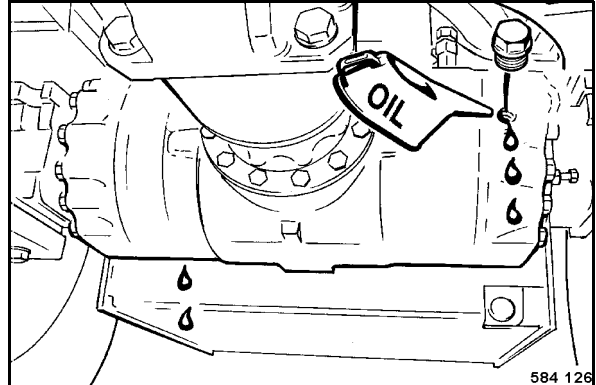

Fig. 174
- Fill in oil through the oil level inspection bores (Fig. 174), until it has reached the bottom edge of the bore.